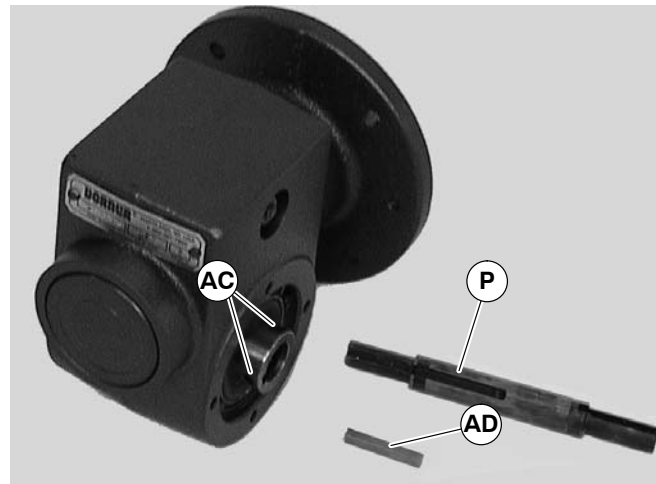

Figure 38
- Remove gear reducer output shaft keys (I).
- Loosen six (6) set screws (AC of Figure 38). Remove drive shaft (P) and key (AD).
11. Replace the original shaft components into new gear reducer (see Figure 38).